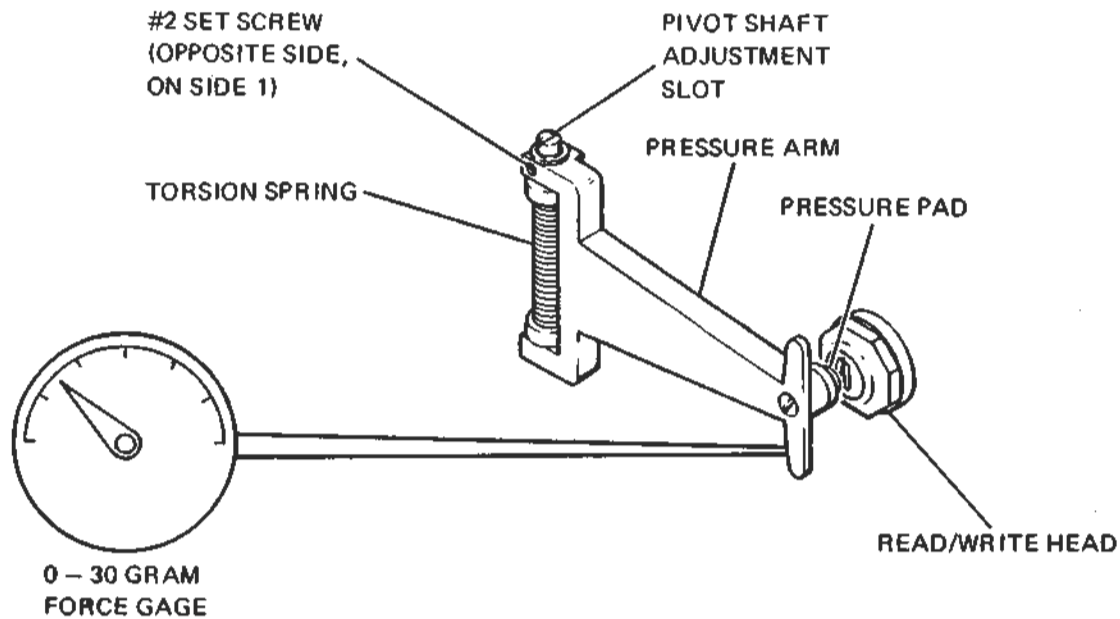

Figure 2-13. Head Pressure Arm Check
- b. Using a cantilever type force gage measure the arm spring force at the head. (Figure 2-13.)